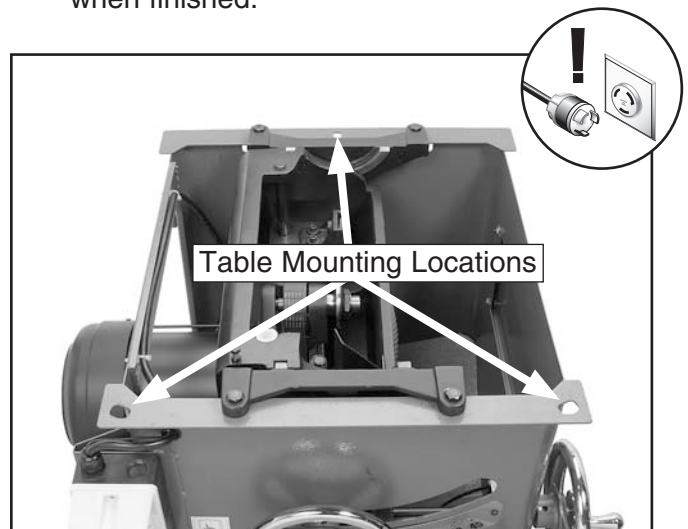

Figure 77. Table mounting bolt holes.
6. To adjust the table, loosen the three bolts in the table mounting locations (see **Figure 77**) and slightly tap the table. Repeat **Steps 2-6** until the blade and miter slot are parallel. Do not forget to tighten the table mounting bolts when finished.